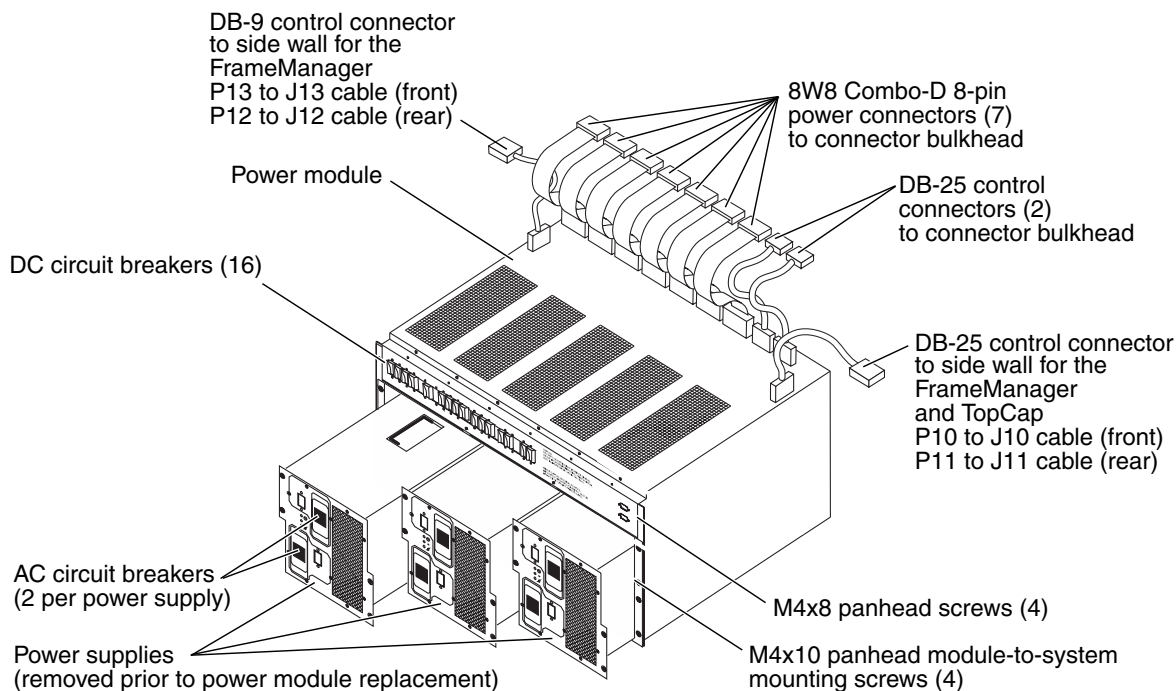

FIGURE 3-2 Power Module
The Sun Fire 15K/12K systems have two power modules, each holding three power supplies. One module is on the front of the system and the other module is on the rear of the system. See FIGURE 3-2.
6. With a flat-blade screwdriver (if needed), loosen the jackscrews on the seven (7) 8W8 Combo-D 8-pin DC power connectors (on the left side) and the three (3) DB-25 control connectors (on the right side).
8. Remove the four (4) M4x10 panhead screws attaching the power module front flanges to the system chassis, as shown in FIGURE 3-2.
3. Secure the power module to the system chassis with the four (4) M4x10 panhead module-to-system mounting screws, as shown in FIGURE 3-2.
4. Connect the seven (7) 8W8 Combo-D 8-pin DC power connectors (on the left side) and the three (3) DB-25 control connectors (on the right side) to the mounting bulkhead of the system chassis, as shown in FIGURE 3-2, and hand tighten the jackscrews.